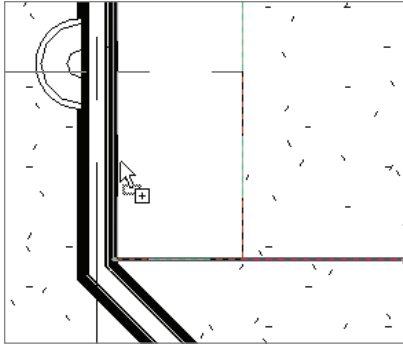

FIGURE 9.60 Placing the 36" double door, two-drawer base cabinet
6. Place a Base Cabinet Double Door & 2 Drawer 36" in the position shown in Figure 9.60.